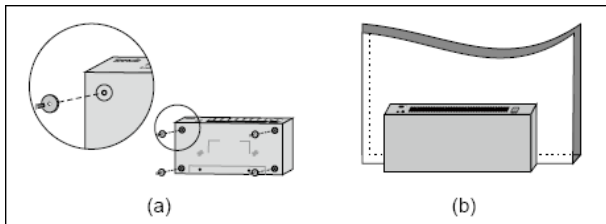

Figure 2-2 Magnet Installation
**Step 2:** Use screws to secure the magnets to the switch's housing, shown as Figure 2-2 (a).
**Step 3:** Press the switch (installed with magnets) in a proper way on a stable surface you select, shown as Figure 2-2 (b).